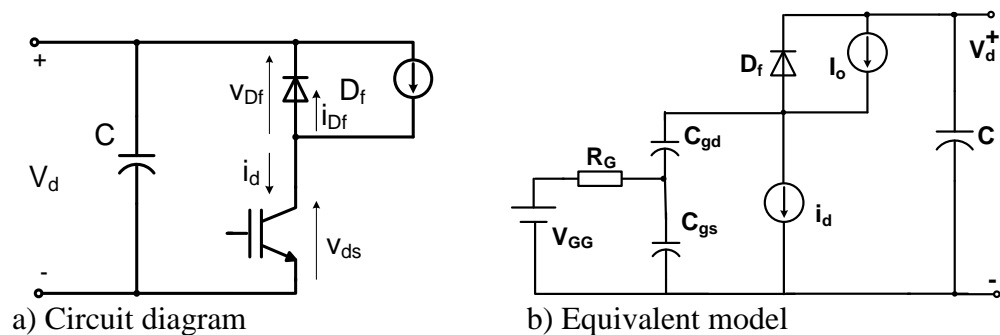

Figure 4.1 Step-down dc to dc converter
4. a. In the circuit shown in figure 4.1.a), an IGBT is used to switch a diode-clamped inductive load. Figure 4.1.b) shows the equivalent model of the circuit shown in figure 4.1.a) which can be used for transient analysis. The load is represented by a constant current source I_o of 300A and the dc supply voltage is 600V. The free-wheeling diode is considered to be ideal. The complete IGBT circuit module with its own gate drive circuit has the following performance characteristics:
a.iii. With reference to the gate-source voltage and figure 4.1 sketch the voltage and current waveforms of i_d , i_{Df} , v_{ds} and v_{Df} during IGBT turn-on.